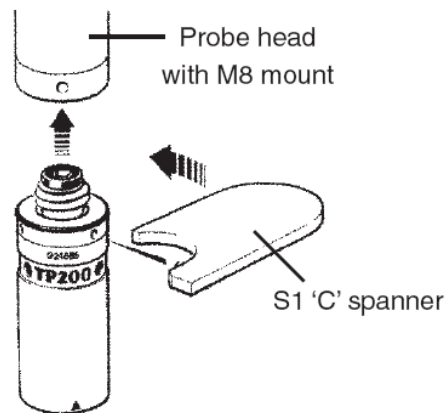

Figure 1: Fitting TP200 sensor to a M8 probe head
1. Mounting the probe body on the probe head with M8 connection (see figure 1)